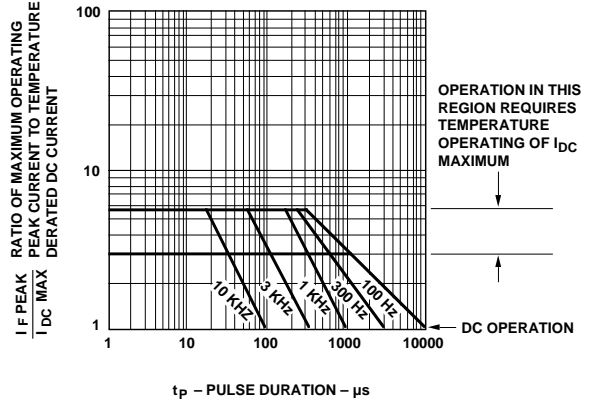

Figure 6. Maximum Tolerable Peak Current vs. Pulse Duration – Yellow.
- See Figure 6 to establish pulsed conditions.